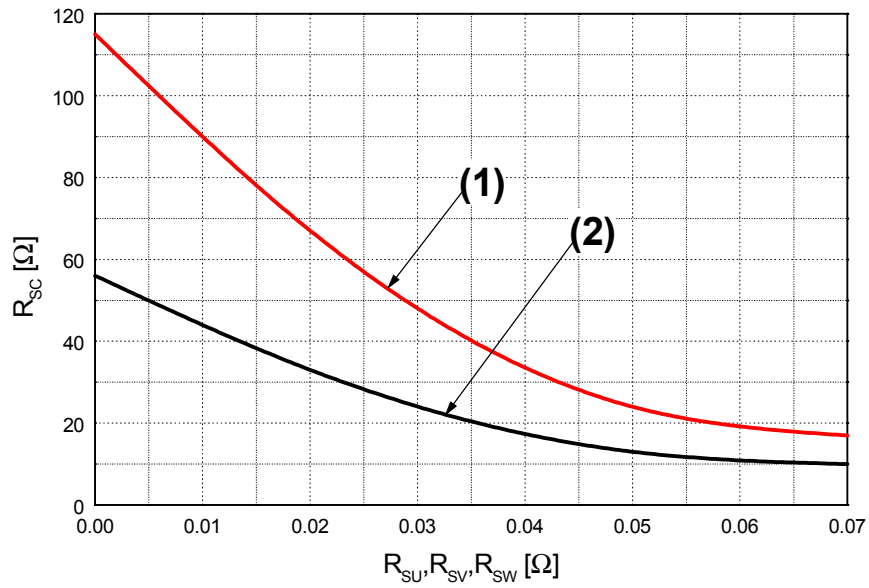

Fig. 6. R_{sc} Variation by change of Shunt Resistors (R_{su} , R_{sv} , R_{sw}) for Short-Circuit Protection
5. Short-circuit current protection is functioning only at the low-sides. It would be recommended that the value of the external sensing resistor (R_{SC}) should be selected around 56 Ω in order to make the SC trip-level of about 30A at the shunt resistors (R_{SU}, R_{SV}, R_{SW}) of 0 Ω . For the detailed information about the relationship between the external sensing resistor (R_{SC}) and the shunt resistors (R_{SU}, R_{SV}, R_{SW}), please see Fig. 6.